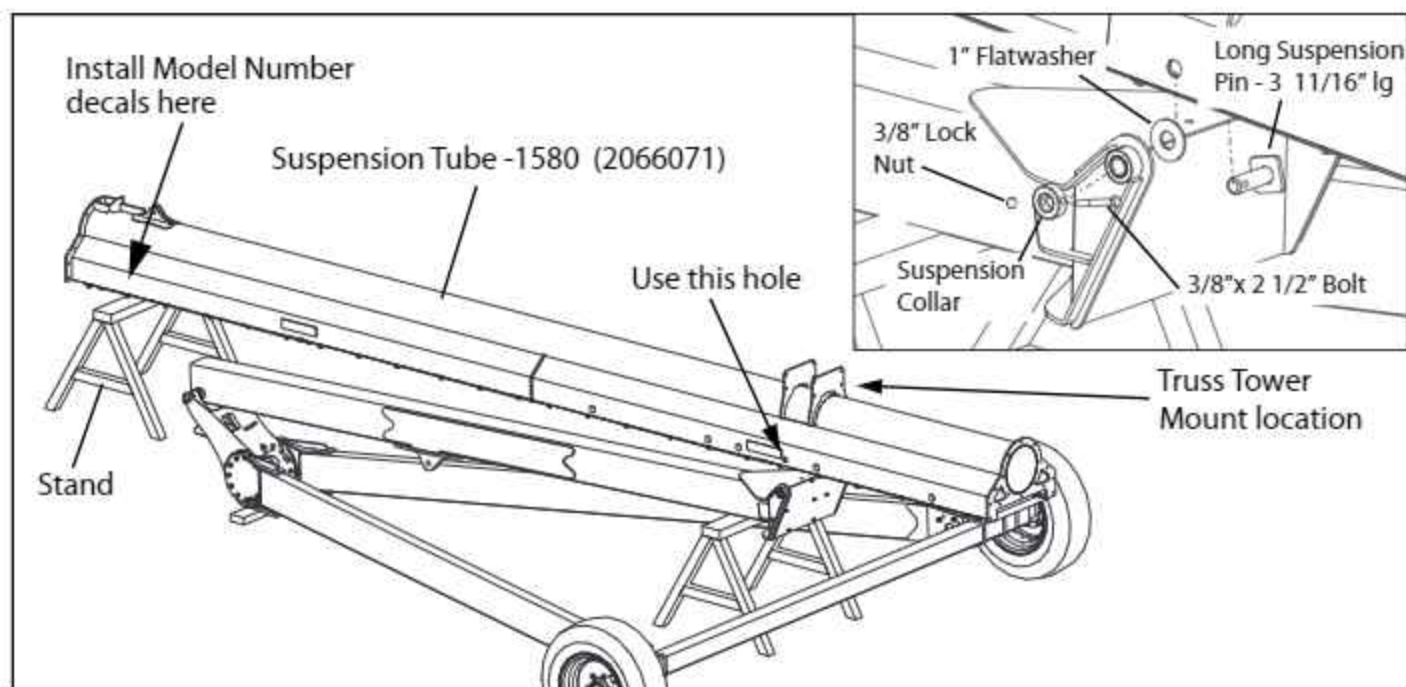

FIG. 3-3. Suspension Tube Installation - 1580
1. Place a stand where shown in Fig. 3-3. Bring in the Suspension Tube Assembly and attach it to the Ladder Tube using two Long Suspension Pins (3 11/16" long), two 1" flat washers, two Suspension Collars, two 3/8" x 2 1/2" bolts and lock nuts.